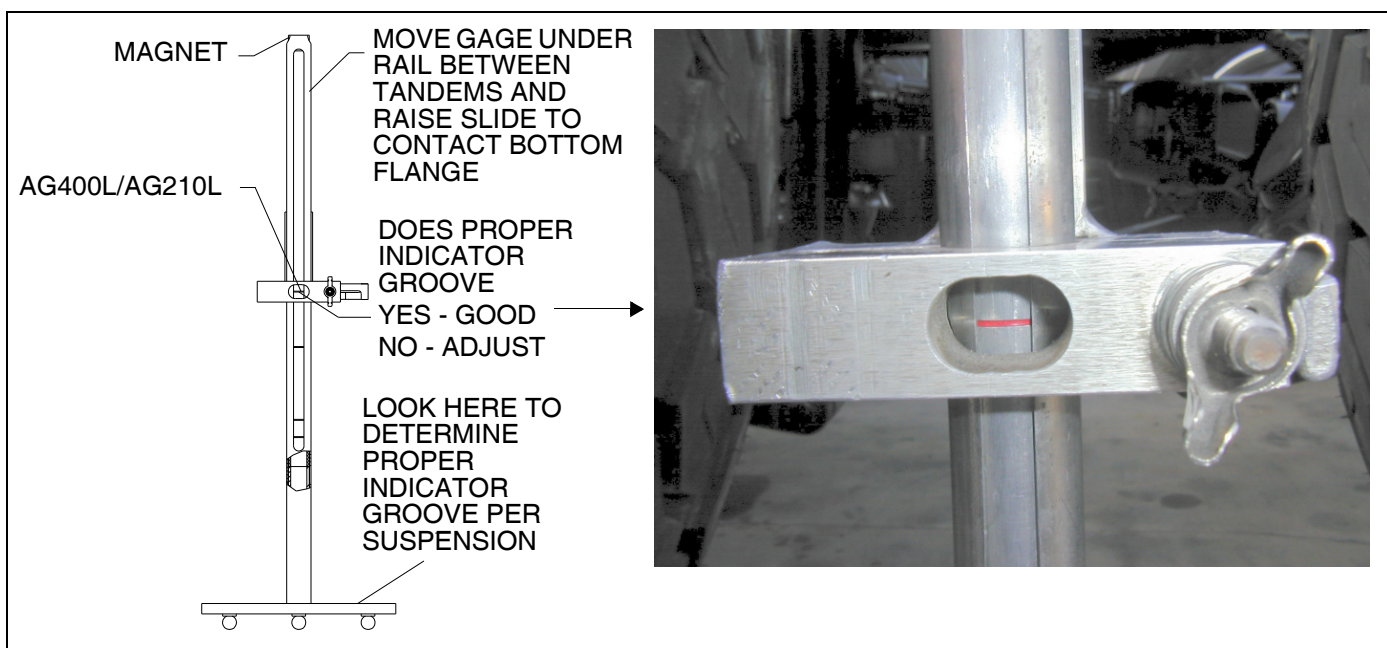

Figure 1-6 Illustration of Checking Ride Height Indicator
10. Look in the tolerance box and note what indicator groove appears (see Figure 1-6).